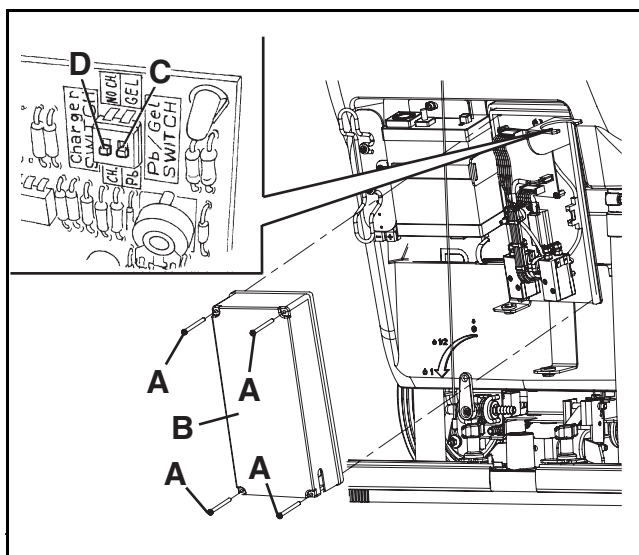

Figure 7
2. Remove the screws (A, Fig. 7) and carefully pull out the electrical component box cover (B).
3. Push the microswitch (C, Fig. 7) downwards to WET position.
Do not move the adjacent switch (D, Fig. 7).
4. Reinstall the electrical component box cover (B, Fig. 7) and tighten the screws (A).